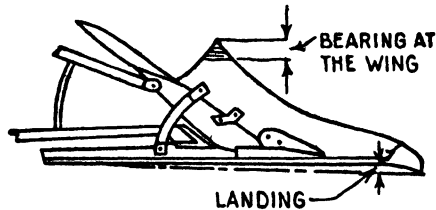

Fig. 75
4. Continue to hammer alternately on the end and on the top until the point is square instead of rounded and a line across the point forms slightly less than a right angle with the bar side. Hammer or file the top of the point until it is tapered abruptly, to a 45 degree angle. The point should be turned toward the bar side about $\frac{1}{8}$ inch to $\frac{1}{4}$ inch as a "landing." Fig. 75.